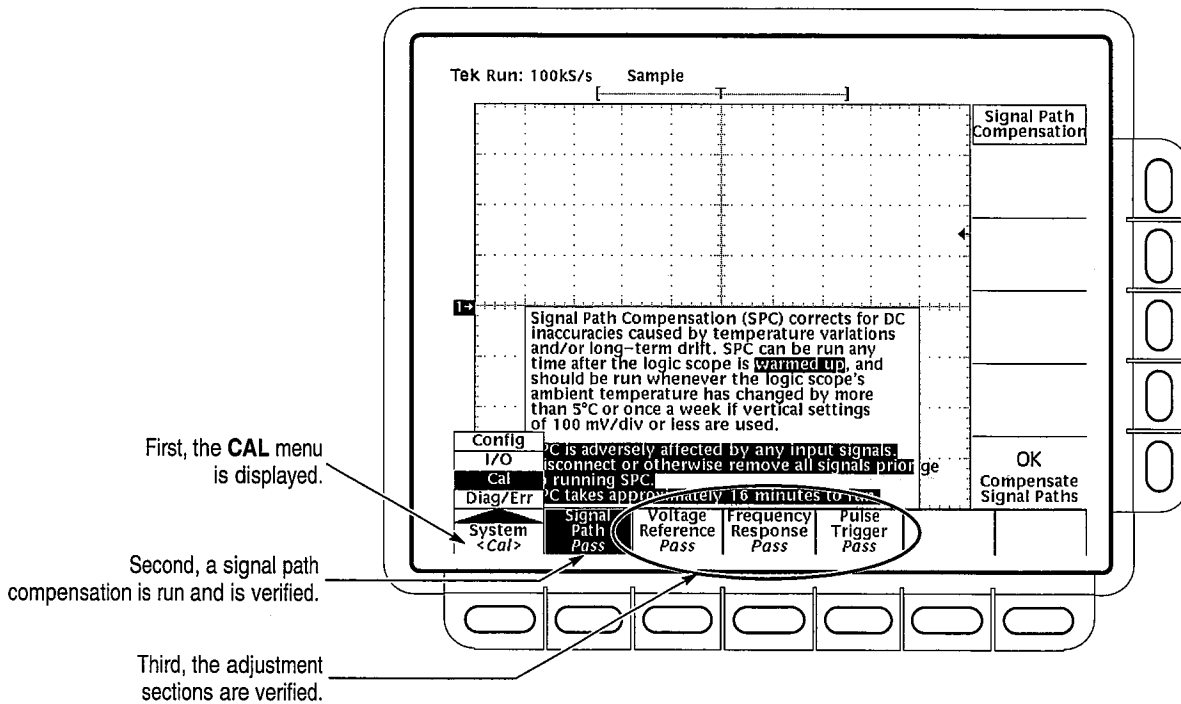

Figure 1-2: Verifying Adjustments and Signal-Path Compensation
- j. Verify that the word **Pass** appears under **Signal Path** in the main menu. (See Figure 1-2.)